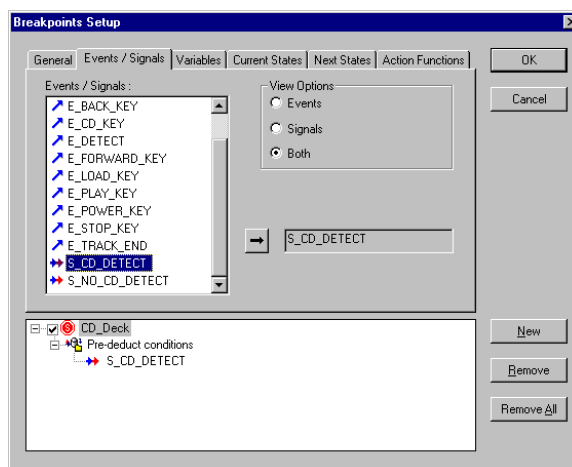

Figure 138: Breakpoints Setup dialog box, Events / Signals tab (Validator)
- 1 Choose Edit>Breakpoints. In the Breakpoints Setup dialog box, click the Events/Signals tab. See example in *Figure 138*, page 171.